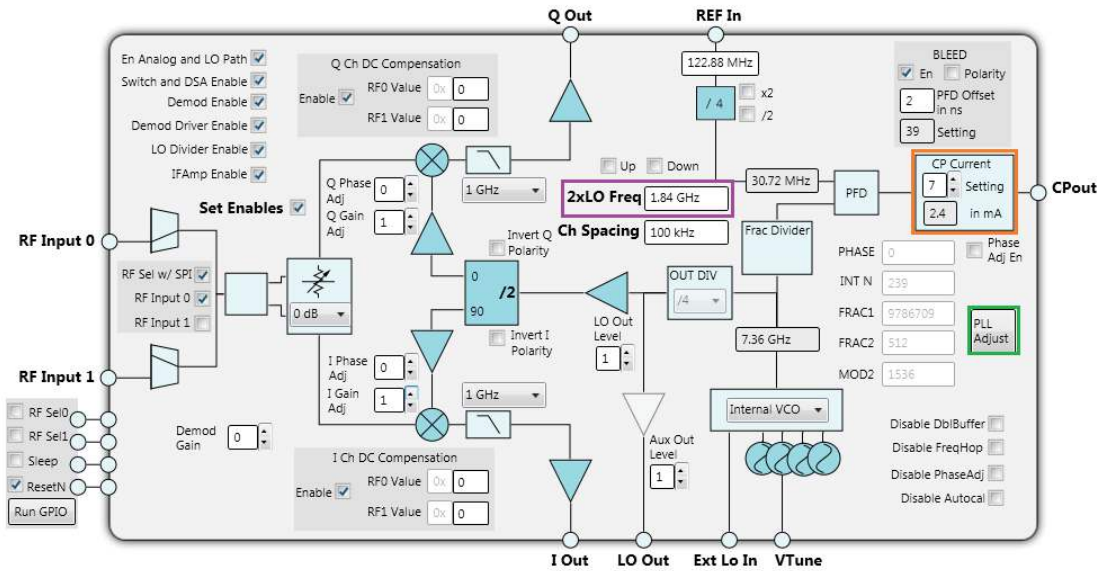

Figure 6. ADRF6821 Tab
3. From the **ADRF6821 Board** tab, double-click the **ADRF6821** icon to open the **ADRF6821** tab (see Figure 6). The **ADRF6821** tab allows the user to configure the ADRF6821 in any desired configuration.
Figure 6 shows the ADRF6821 tab, which displays the main controls required to configure the device.